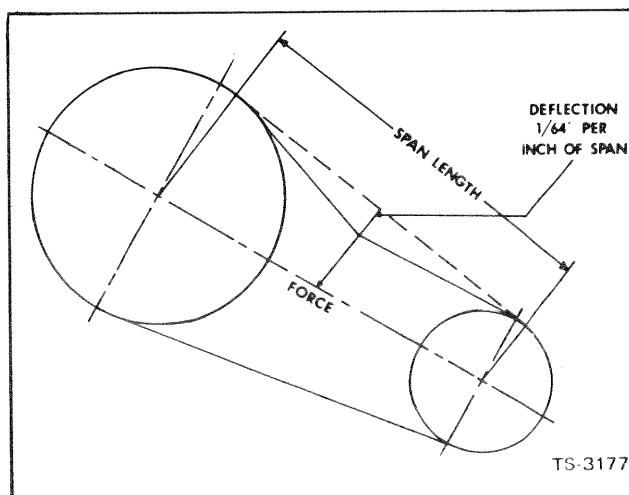
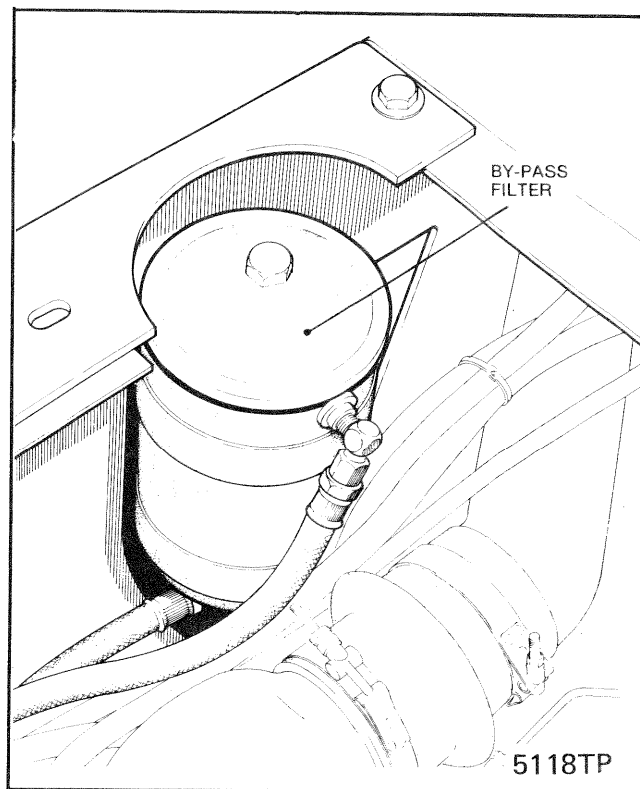

Fig. 6-1 Check Belt Tension
Fig. 6-2 By-Pass Filter Location
**Radiator and Surge Tank** — Daily check the site gauge mounted on the right hand side of the surge tank. (see Fig. 6-1). If the water level is low add clean soft water or anti-freeze as necessary depending on the ambient temperature. (see Fig. 6-2 for location of filler neck.)
2. At the center of the span, apply a force with a spring scale (at right angles to the span) large enough to deflect the belt 1/64 of an inch per inch (.016 cm. per cm.) of span Fig. 6-1.